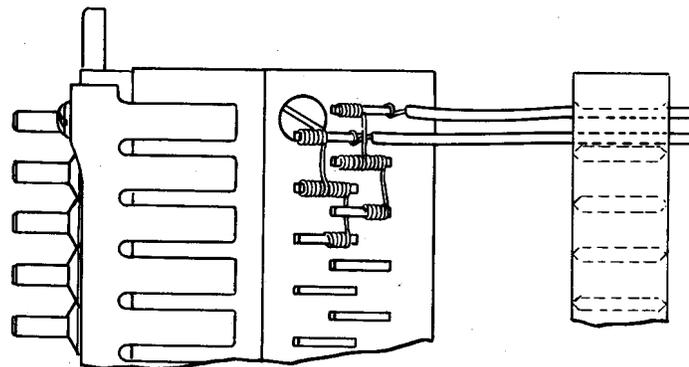

Fig. 31—Metallic Return Feeders—300-Type Connectors
22-gauge bare tinned copper wire. (See Fig. 31 and 32.)
- (a) Terminals of 300-type connectors shall be strapped in accordance with methods outlined in Section 069-133-801 and as shown in Fig. 31.